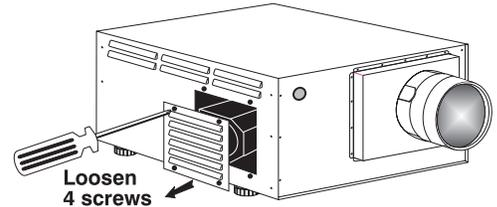

Figure 4.2. Remove the lamp door
- See Figure 4.2. Loosen the 4 captive screws securing the projector's lamp door.